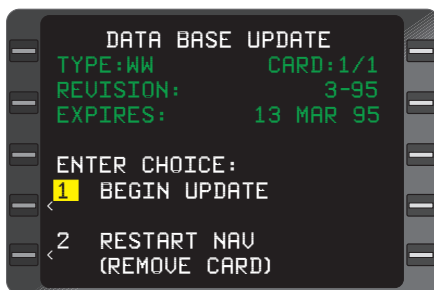

Figure 5-1
4. **ON** Key - DEPRESS to turn on system. Figure 5-1 appears.